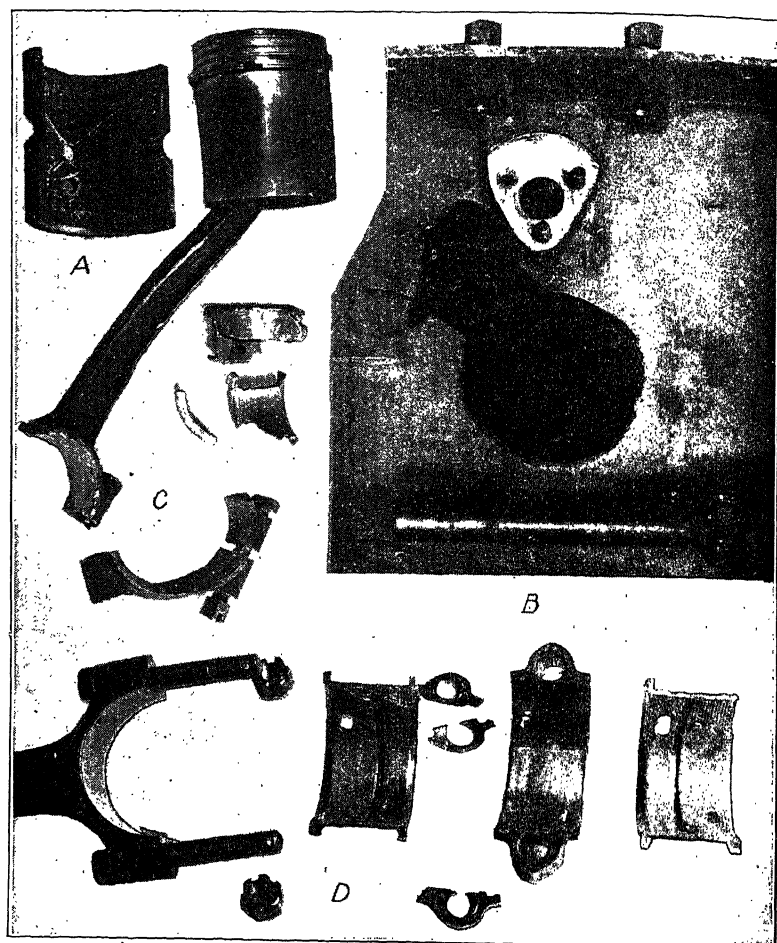

Fig. 6. A—Burned Connecting-Rod Bearing
The lubrication system may fail because of lack of oil, poor grade of oil, diluted oil, or clogged or broken oil lines. The degree of failure will vary from a very slight failure all the way to complete loss of bearing material. When the latter happens, the bearing is said to have burned out. Burned bearings, such as those illustrated at *A* in Fig. 6, are not at all uncommon and are due to the failure of the lubrication system. These bearings have not been completely burned out, although they have been burned to a point where they are worthless. They are not fit to be reconditioned; and in every case of severe burning such as this, the bearing must be rebabbitted or the shell replaced. Where the burning is very slight, the burned portion may be scraped away, exposing new metal, and the bearing refitted. When a bearing heats up quickly and excessively, the
**Broken Connecting Rods.** Bearings which have become out of adjustment will "pound" in a very lively fashion. If an engine is operated with a loose connecting rod, at a high rate of speed, the rod is very likely to be thrown from the crankshaft and serious damage may result. At *B* in Fig. 6 is shown a crankcase which had a hole broken into it when a connecting rod was thrown from the crankshaft. The connecting rod which was thrown is shown at *C*. Another rod which likewise suffered from bearing failure but which was not thrown from the crankshaft is shown at *D*. This particular damage was done owing to careless workmanship. The would-be mechanic, after adjusting the connecting rods, failed to insert the cotter keys to lock the connecting-rod bolt nuts in place. After one nut had backed off, the engine being speeded up, the rod cap was thrown off and the rod itself went through the side of the crankcase when the crankshaft throw came around and hit it.
**Caution.** Under no circumstances must the connecting-rod bolt nuts be backed off to allow the proper play in the connecting-rod bearing. The shims are placed in the bearing cap in order that the connecting-rod bolts may be turned up very tight, at the same time allowing just the slightest amount of clearance between the connecting-rod bearing and the crank pin. This is a point which is very difficult for the average beginner to master. In many cases the workmen have been known to back off the connecting-rod bolt nuts until just the right feel or drag was noticed on the crankshaft when turned over by hand. The cotter keys were then inserted in the connecting-rod bolts and the job assumed to be a satisfactory one. This is far from the truth and unless the proper shims are in position and the connecting-rod bolts locked as tight as the average speed wrench will permit, trouble of the nature of that shown in Fig. 6 is likely to develop within a very short time. The careful mechanic will always continue testing by removing or replacing shims until exactly the right tension is secured and the connecting-rod bolt nuts are turned home in a very snug fashion. That is what the owner of the car is paying for—skill of hand, mixed with a good bit of “gray matter.”